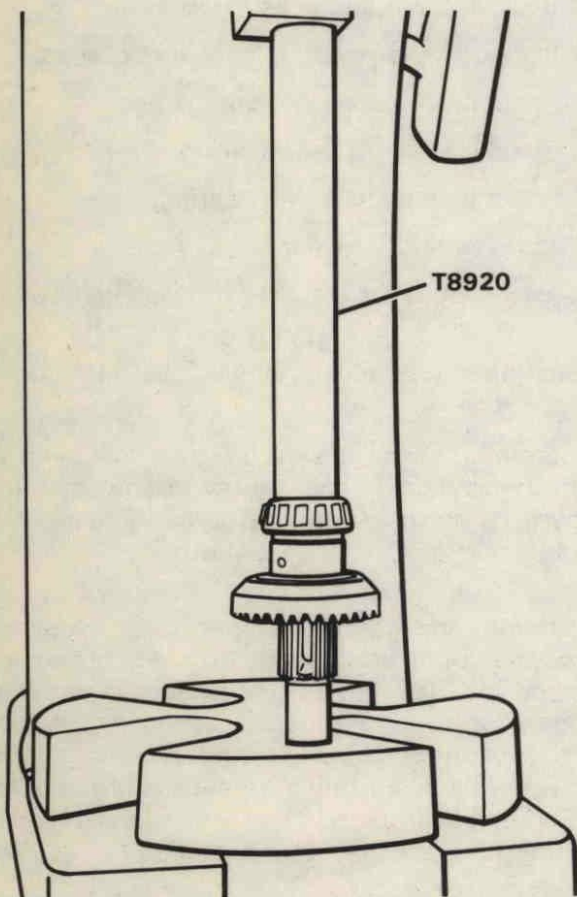

Figure 63. Installing Propeller Shaft Components.
C. Place prop shaft with components on arbor press. Slip bearing installer (Special Tool No. T 8920) over end of prop shaft and press components on prop shaft until bearing bottoms out. Figure 63.